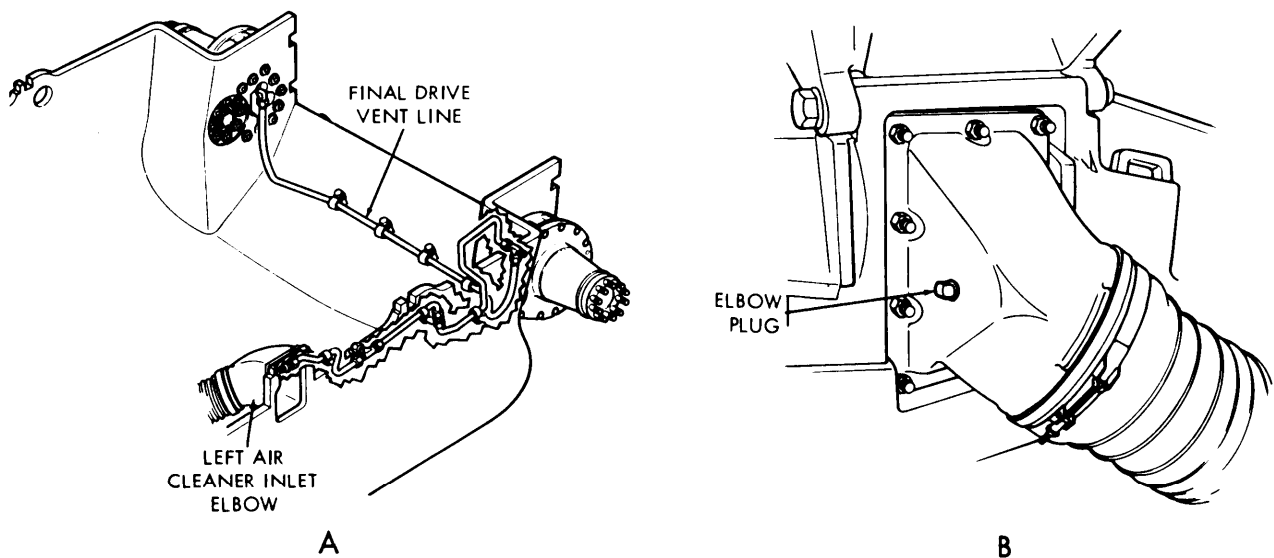

Figure 3-7. Final drive vent system inspection.
- (2) Inspect fuel tank for pressure of vent line from fuel tank to air cleaner.
- (3) If vehicle is equipped with fuel tank to air cleaner vent system, go to step 4. If not, go to step 8.
- (4) Make sure valve arrow points toward right fuel tank. If installed incorrectly, fuel will enter the air cleaner. Reverse valve installation, if required.
- (5) Check hose assemblies for line pliability, deterioration and general serviceability. If any hoses are defective, replace (TM-20).
- (6) Inspect all fittings and connectors for cracks or other damage. Replace as necessary (TM-20).
- (7) Check for loose, broken or cracked clamps, brackets or bushings. Replace as necessary (TM-20). Go to step 10.
- (8) Check outlet elbow for plug (late model vent hole). Install replacement plug if missing.
- (9) Tighten pipe plug securely.
- (10) Close right side grille doors (TM-10).
b. Final Drive Vent System (Fig. 3-7).